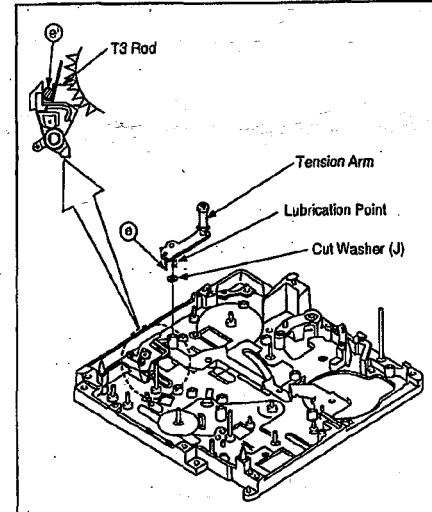

Fig. M13
| 8. Tension Arm Unit               | Fig. M13 | Turn the Mode Gear to counter-clockwise until Tension Arm Unit slightly move to loading direction. Remove the Tension Arm Unit and Cut Washer (J). The projection (e) on Tension Arm meets guide (e') on the T3 Rod which is shifted by turning Mode Gear. |